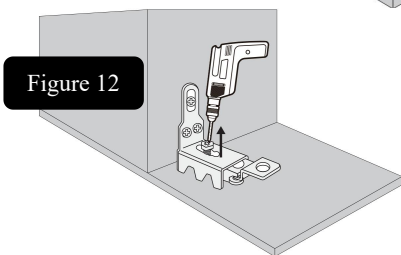

Figure 12
- Step 4:** Loosen the screw as shown (Figure 12).